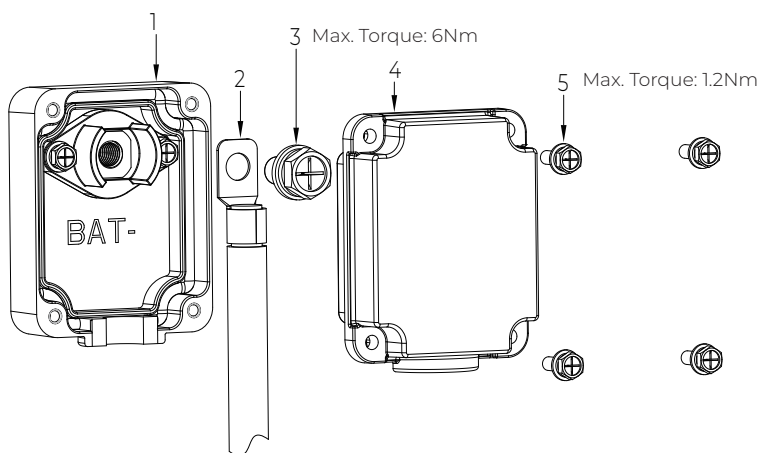

Figure 6-9-3
- Secure the black protection cover with M4 screws. See Figure 6-9-3.